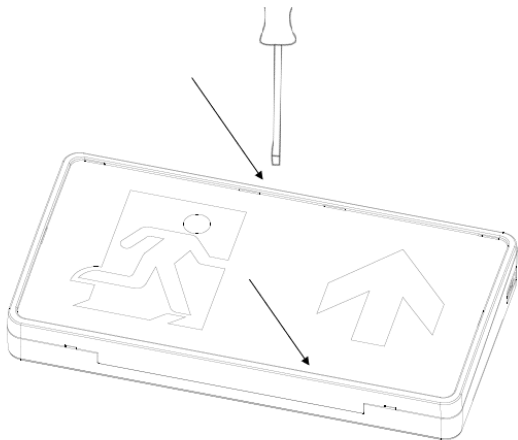

Fig. 1
- The fitting is supplied with the 'arrow up' legend as standard. The legend may be changed if required: the clear plastic front cover should be removed by inserting a screwdriver beside the plastic tabs top and bottom of the clear cover (see Fig. 1) and twisting gently to lever the tabs out. Once the top and bottom tabs are free, the cover can be bent forwards and lifted out gently, taking care not to break any of the tabs. Reverse the procedure to replace the cover